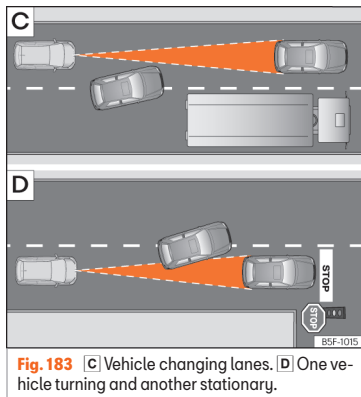

Fig. 183 **C** Vehicle changing lanes. **D** One vehicle turning and another stationary.
- Vehicles that move into your lane, a short distance from your vehicle » **Fig. 183 C**.
The ACC does not react to stationary vehicles. If, for example, a vehicle detected by the ACC turns or moves over and there is a stationary vehicle in front of it, the ACC will not react to the second vehicle »» Fig. 183 [D].